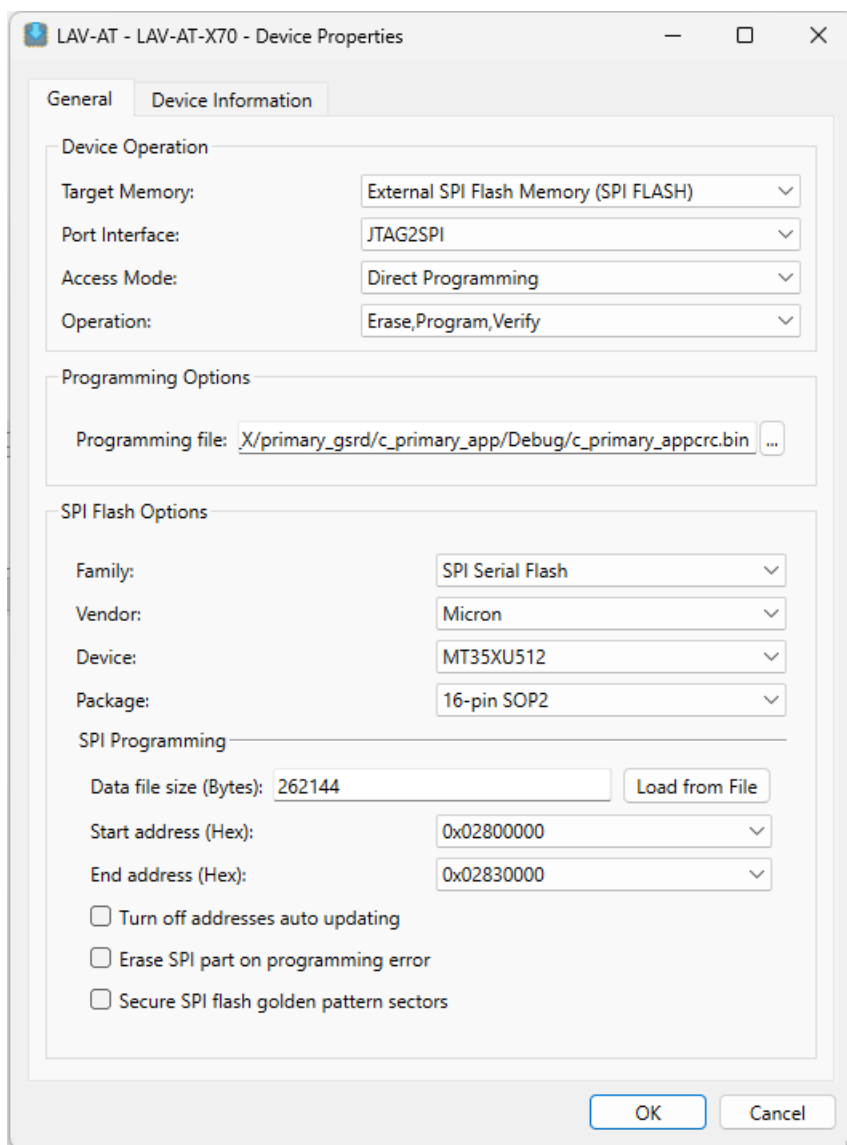

Figure 6.18. Device Properties to Program the SPI Flash
14. To program the **c_golden_apprc.bin** file into the SPI Flash, follow the settings as shown in Figure 6.18.